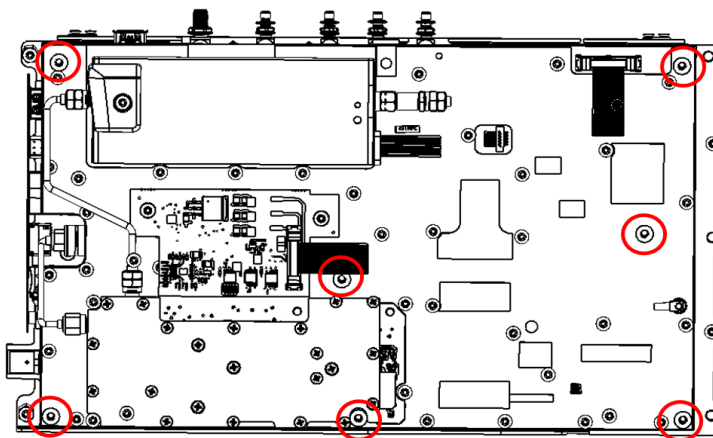

**Figure 5-12.** Main and VSA Separation
9. After the top panel is removed, The seven screws securing the VSA to Main PCB can be removed as shown in Figure 5-12.